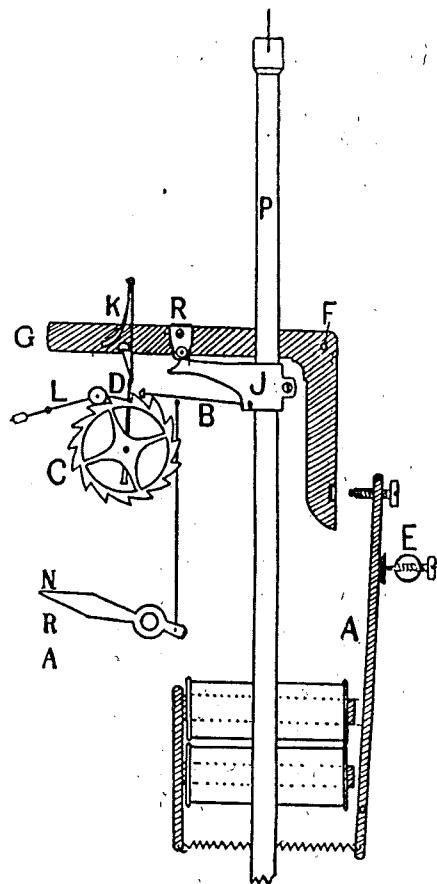

Fig. 3.—SWITCH MOVEMENT OF A SYNCHRONOME ELECTRIC CLOCK.
Fig. 3) centred at F and normally supported on the spring catch K. Once every half-minute the lever is let down (in the act of giving an impulse to the pendulum P) upon (2) the armature A. Current from any available source then passes through the series circuit of dials and the magnet, which attracts the armature A and throws up the lever G on to its catch again.
Convenient means of setting all the dials to time is provided by the lever on the left-hand side of the controlling pendulum switch (see Fig 3.) When this lever